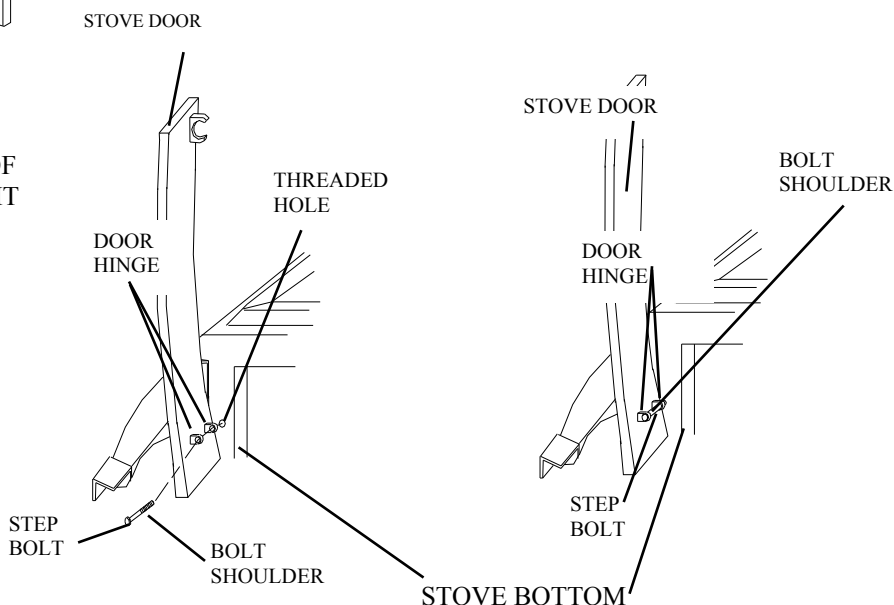

FIGURE 9 - ATTACHING STOVE DOOR
9. Attach stove door by inserting step bolt through door hinge pivot hole and into threaded hole in stove body (See Figure 9 and 10 on page 8). Use an adjustable wrench or a 12mm socket to fasten step bolt. Tighten step bolt until snug. Make sure door moves freely.